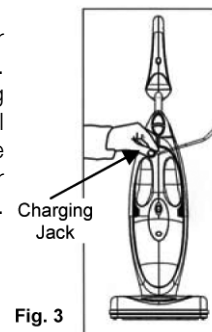

Fig. 3
2. Connect the charger to the charging jack. The red charging indicator light will illuminate when the vacuum cleaner is being charged. (Fig.3)